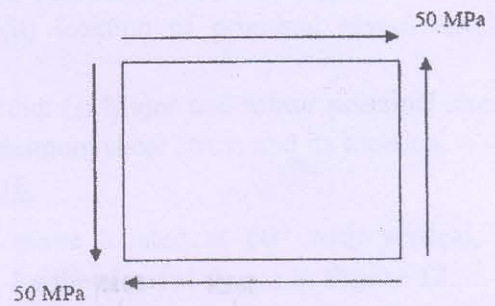

Figure 10
- Q - 5 (a)** Define principal plane and state the importance of finding the same. Draw Mohr's stress circle for the element subjected to the stresses as shown in **Figure 10** and find: [07]